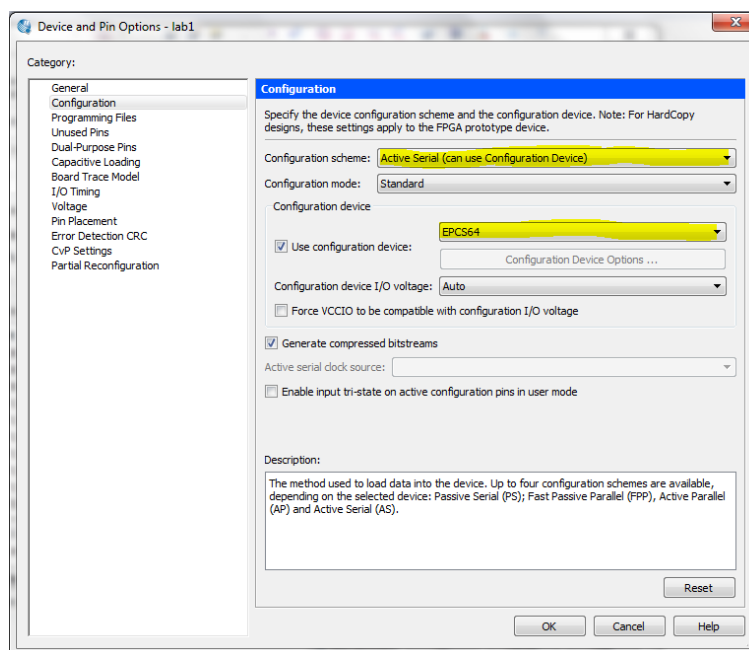

Figure 9: Active Serial Configuration Settings
- Before beginning this method you should first check that under **Assignments** → **Device** → **Device and Pin Options** are configured in the same way as figure 9, if not you must set the configuration scheme to *Active Serial* and also set the configuration device to *EPCS64*. If this was not set you must recompile your hardware.